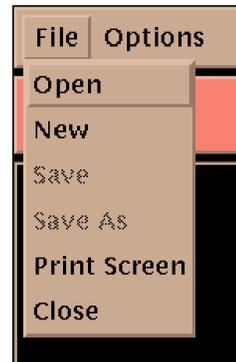

Fig. 40 — Checklist editor: file menu
- Click on *New* from the *File* menu (Fig. 40) in the **Checklist Editor Window**.
- Click on *Open* from the *File* menu (Fig. 40) in the **Checklist Editor Window**.
The checklist editor provides various maintenance functions, including deleting and saving checklists. To delete a checklist set, click on *Delete Checklist Set* under the *Options* menu (Fig. 38) in the **Checklist Editor Window**. Note: *Create Checklist Set* (under *Options*) is not yet available. To save an edited checklist set (and keep the same name), click on *Save* under the *File* menu (Fig. 40) in the **Checklist Editor Window**. To save an edited checklist set with a new name, click on *Save As* under the *File* menu. MMC will prompt the user for the new name. To close an edit session without saving, click on *Close* under the *File* menu. To print a copy of the checklist, click on *Print Screen* under the *File* menu.